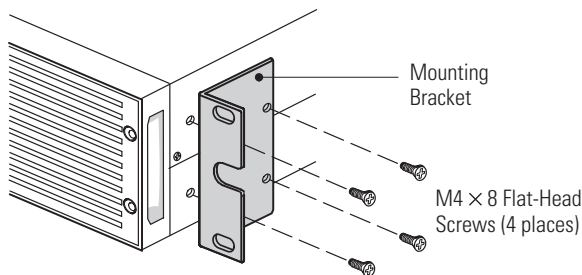

Figure 6. Installing the Mounting Brackets (Forward Position Shown)
9. Align the mounting brackets with the screw holes on each side of the UPS and secure with the supplied M4x8 flat-head screws (see Figure 6).